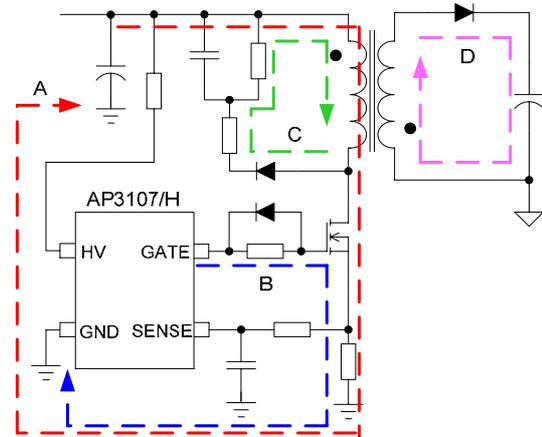

Figure 5. High Current Loop
A proper PCB layout can abate unknown noise interference and EMI issue in the switching power supply. Shown as Figure 5, there are four main huge high frequency current loops:
1. The current path from bulk capacitor, transformer, MOSFET, R_{CS} returning to bulk capacitor, path A in Figure 5;
2. The path from GATE pin, MOSFET, R_{CS} returning to the ground of IC, path B in Figure 5;
3. The RCD clamp circuit is a high frequency loop, path C in Figure 5;
4. Transformer, rectifier diode, and output capacitor is also a high frequency current loop, path D in Figure 5.